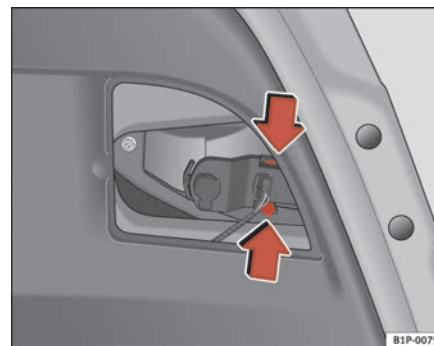

Fig. 172 Removing the lampholder
- Take the lampholder out pressing on the securing pins and extract it outwards ⇒ page 251, fig. 172.